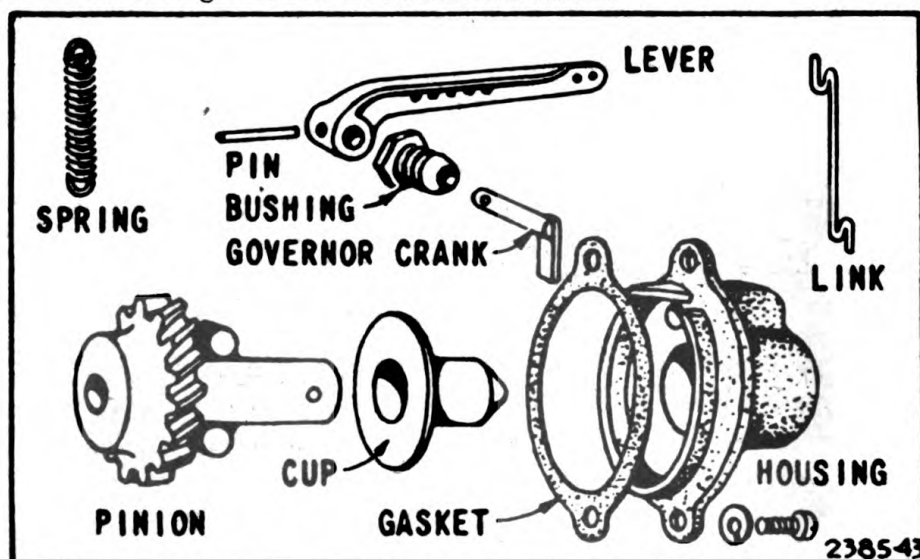
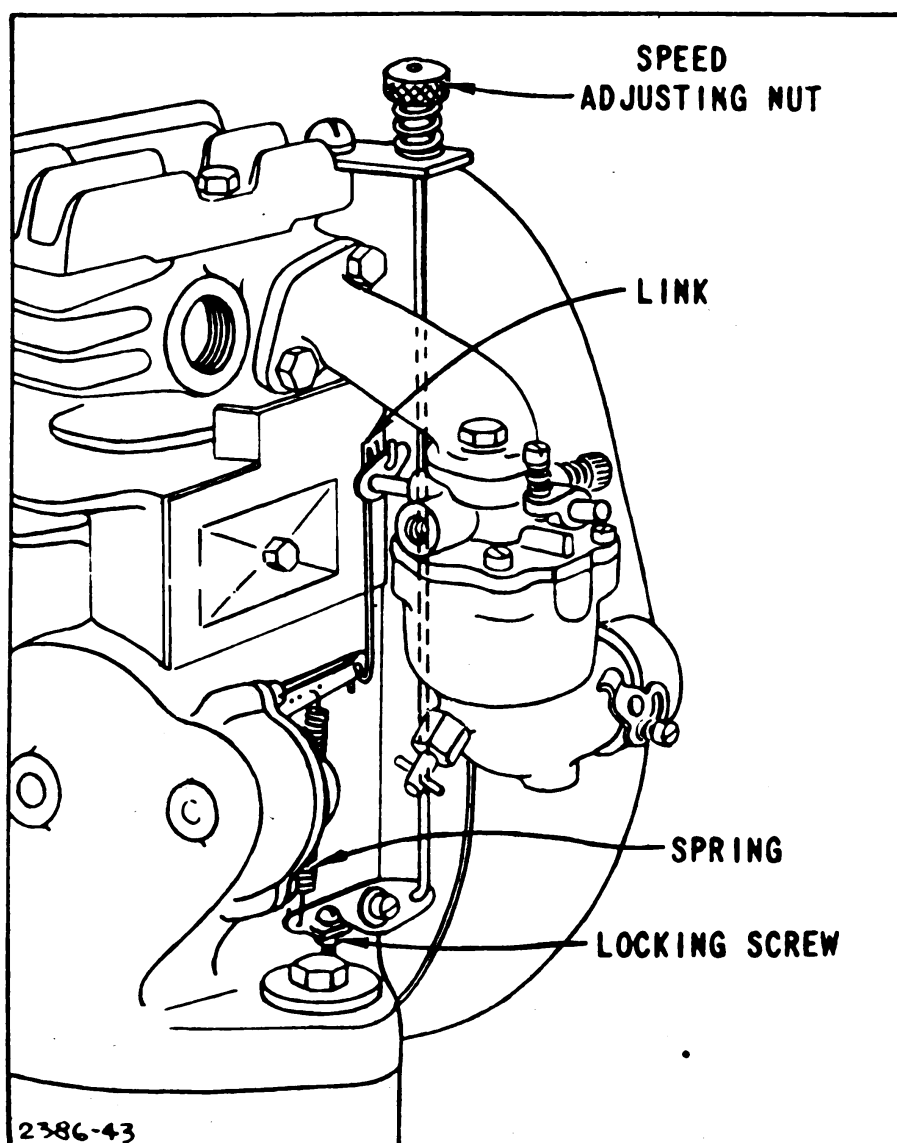

Figure 7.—Governor parts
Figure 8.—Carburetor and governor (mechanical) hook-up
gear (fig. 7). The cup is moved outward by action of the weights and in turn acts upon the crank and lever which are connected to the carburetor throttle. The governor lever is connected to the carburetor throttle by a link. Any movement of the governor weights, caused by a rise or drop in load affecting the engine speed, is immediately transmitted to the carburetor throttle, thereby increasing or decreasing the throttle valve opening. A spring for regulating and controlling action of the governor (fig. 8) is incorporated in the governor lever. This spring is adjustable by means of a thumbscrew, the speed-regulating nut. Recommended operating speed is 2,700 rpm at no load.
To adjust carburetor, completely close needle valve (figs. 8 and 9) by turning to the right or clockwise as far as possible. Do not screw valve
b. On PE-77-D and E a speed regulator is located on top of the cylinder above the carburetor (fig. 8). Turn the regulator to the *right* to increase speed and voltage; to the *left* to reduce engine speed and voltage. Adjust so that the voltage reads 115 volts at full load.
- c. To inspect and clean governor parts (PE-77-D and PE-77-E):—(1) Remove carburetor by disconnecting fuel line and removing two screws at top and one at bottom.
- (2) Unhook throttle link (fig. 7).
- (3) Unhook spring.
- (4) Remove two screws which fasten governor housing to crankcase and lift off housing.
- (5) Remove cup and pinion
- (6) Clean parts in Diesel oil or cleaning solvent (Federal Specification P-S-661A) and inspect them carefully.
- (7) Replace worn parts with new ones and assemble with new lubricant.